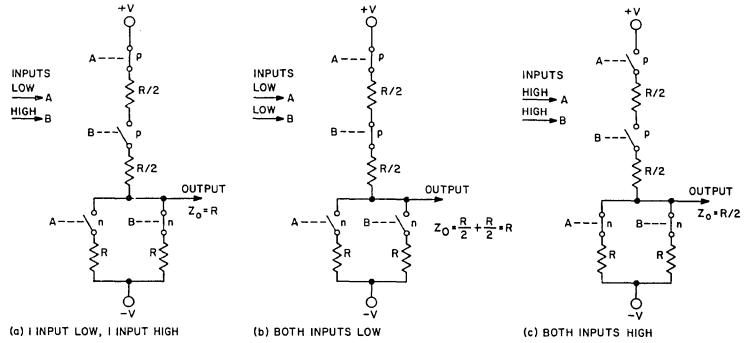

Fig. 4 — Variable output impedance of an unbuffered 2-input NOR gate. The resistors represent the on impedance of a p- or n-channel MOS transistor.
–Unbuffered—Fig. 4 depicts the unbuffered 2-input-gate p- and n-channel MOS switches and appropriate on-channel resistances. Note that the two stacked p-channel switches are designed for an on resistance of R/2, so that the output impedance is R when both the logic inputs are low, Fig. 4(b). In Fig. 4(a) the output impedance is R to the negative supply terminal (usually ground) for an input logic state of 1, input high. Fig. 4(c) shows the condition when the unbuffered gate has an output impedance of R/2 for both logic inputs high. Hence the variable output impedance of the unbuffered gate. For a 4-input gate, this variable is R to R/4! The maximum output resistance of RCA buffered or unbuffered gates is R. Thus, minimum I_{OL} and I_{OH} specifications for buffered and unbuffered gates are identical.